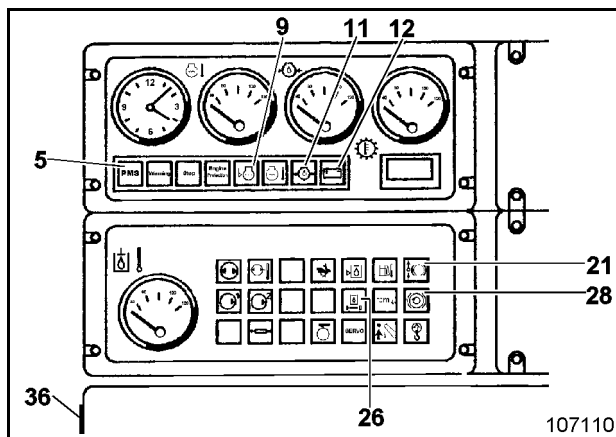

Fig. 2-28:
All monitoring and warning lamps are activated for 5 seconds and buzzer (36, Fig. 2-28:) is activated for 1 second. Thereafter, warning lamps (5, 9, 10, 11, 12, 21, 26, 28, 30) are lit. Warning lamp (5) flashes.